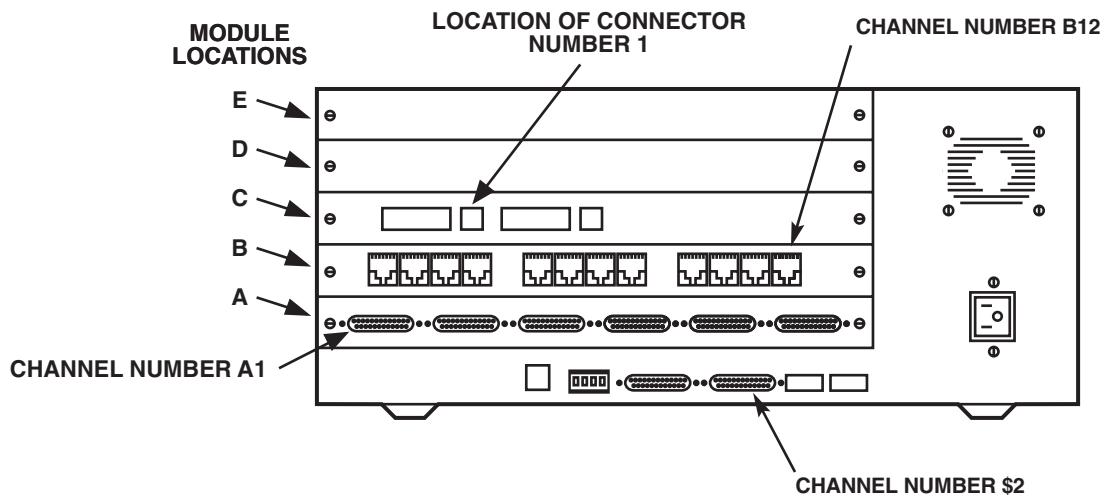

Figure 4-8. Module and Channel Nomenclature.
- In the example shown in Figure 4-8, the Channel Expansion Module (CEM) in location B has 12 connectors, and their channel numbers are B1 through B12.